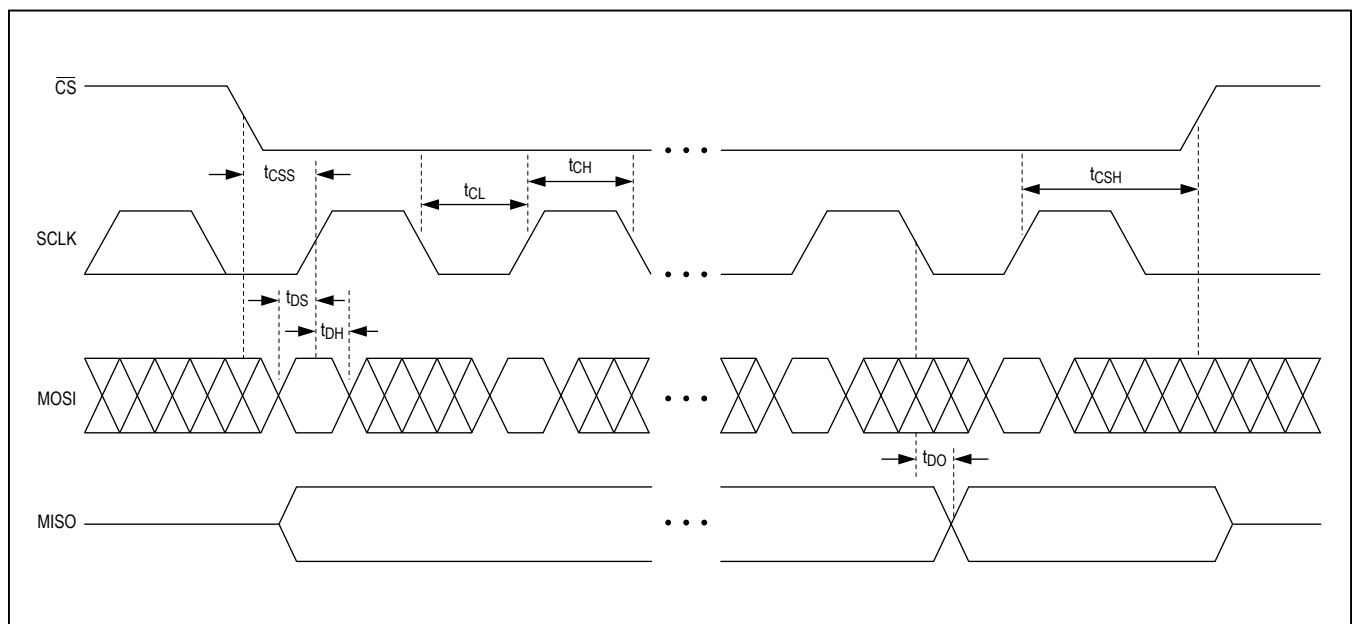

Figure 12. SPI Timing Details
In SPI mode, the device operates a shift register designed to work with common serial interfaces. The bits are shifted through so that a large serial chain can be made to minimize pins needed for a system with multiple devices. (See Figure 12.) This shift register is also designed to be compatible with common microcontroller SPI-type interfaces. The switches in the MAX14661 are all transitioned simultaneously. To update the switches in SPI mode, the user must shift in a bit with the desired state of each switch according to the data format listed in Table 4. The switches are updated at the rising edge of \overline{CS} with the last 32 bits of data shifted in **only if the number of bits clocked in is greater than or equal to the number of switches (32)**. The DOUT pin is the serial output of the shift register. This outputs the data loaded into DIN, delayed by 32 clocks, and is intended for creating a serial daisy chain to minimize the number select lines required
Note that the data in the shift register may not be the same as the state of the switches. The DOUT pin is intended for daisy chain applications and not for switch readback. Note for V_{CC} less than 2.7V, the DOUT propagation delay can limit the maximum SPI operating frequency. See Figures 12 and 13 for the SPI timing diagrams. The voltage level driven out by the DOUT buffer is set by the voltage applied to SPI/\overline{I}^2C . This allows the voltage to be independent from the supply voltage. While we expect the voltage at SPI/\overline{I}^2C to be less than or equal to V_{CC} in most applications, it can be higher than V_{CC} as long as it does not exceed V_{CC} before V_{CC} has reached at least 1.8V.